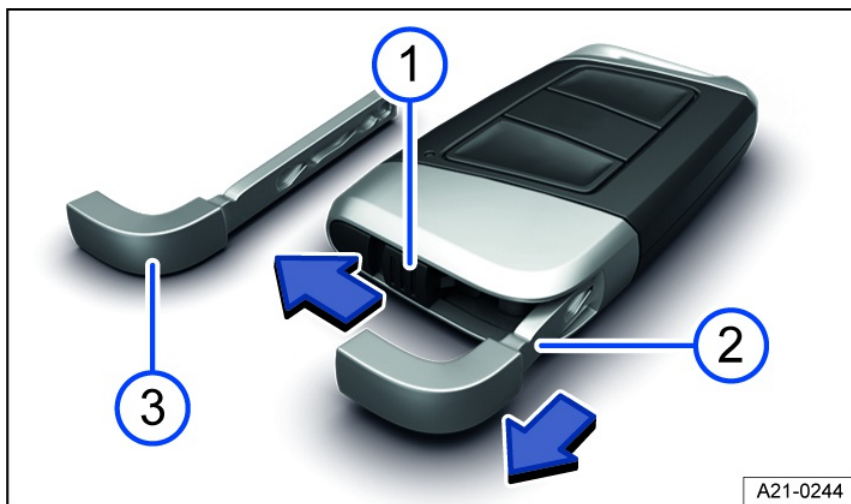

Fig. 47 Vehicle key: Unlocking the emergency key (general example).
- ① Push the locking mechanism in the direction of the arrow.
- ② Remove the emergency key in the direction of the arrow.
- ③ Emergency key.
There may be an emergency key fig. 47 ③ located in the vehicle key that can be used to manually unlock and lock the vehicle.